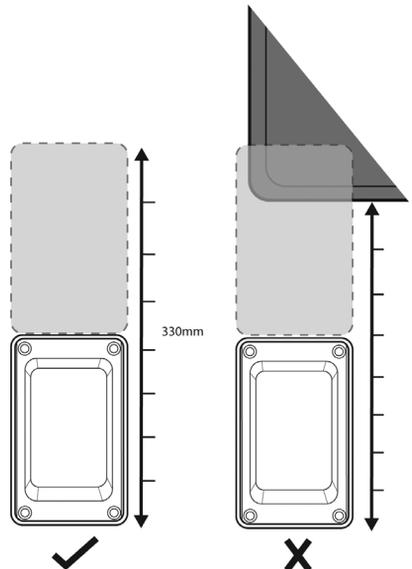

Figure 3
- (Figure 3) Ensure you have enough free wall space for the installation including enough clearance for the Whale Easi-Slide Lid when installing and open.